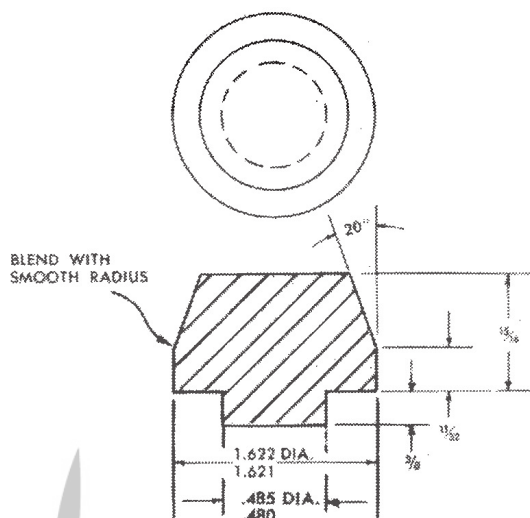

Fig. 7
a block of wood. The seals should be pressed in (27) as shown in cutaway pump view. When returning crossheads through new seals care should be taken not to turn back or damage the lip of the seal. An assembly thimble can be very helpful in this operation. Fig. 6 illustrates an assembly thimble being placed on the end of the crosshead. Fig. 7 shows a recommended thimble for installation of oil seals.